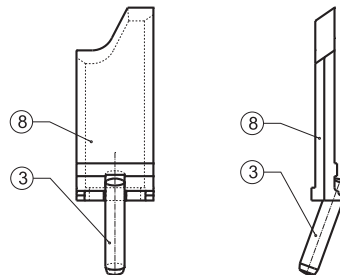

Fig. 9
2. Loosen the set screws (1) with the torx wrench so far (5 turns) until the profile knife (2) together with the profiled chip breaker (7) and the gib (6) can be removed completely from the knife seat.
5. Replace the new backing plate (8) with the new profile into the knife seat. **Be sure that the stop cam (3) leans firmly into the corresponding notch of the backing plate (s. fig. 9).**